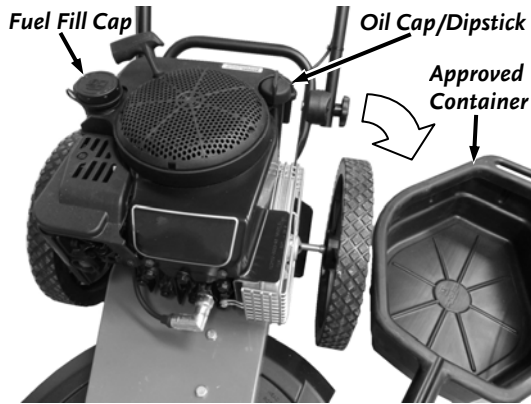

Figure 40
Note: The Oil Fill on the 8.75 model is on opposite side from what is shown in figure 40.
4. Using the handle of the TRIMMER/MOWER, tip the machine to drain the oil out through the Oil Filler Tube into a suitable receptacle (**Figure 40**).